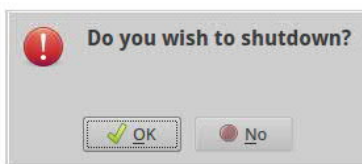

Figure 51: Analyzer Shutdown Prompt
2. A pop-up box appears on the *Main Panel* and prompts you to verify that you want to shut down the analyzer to prevent accidental button presses from causing interruption in data. (Figure 51)
3. Click the OK button to halt data acquisition, close the current data file, and display the shutdown screen. (Figure 51)